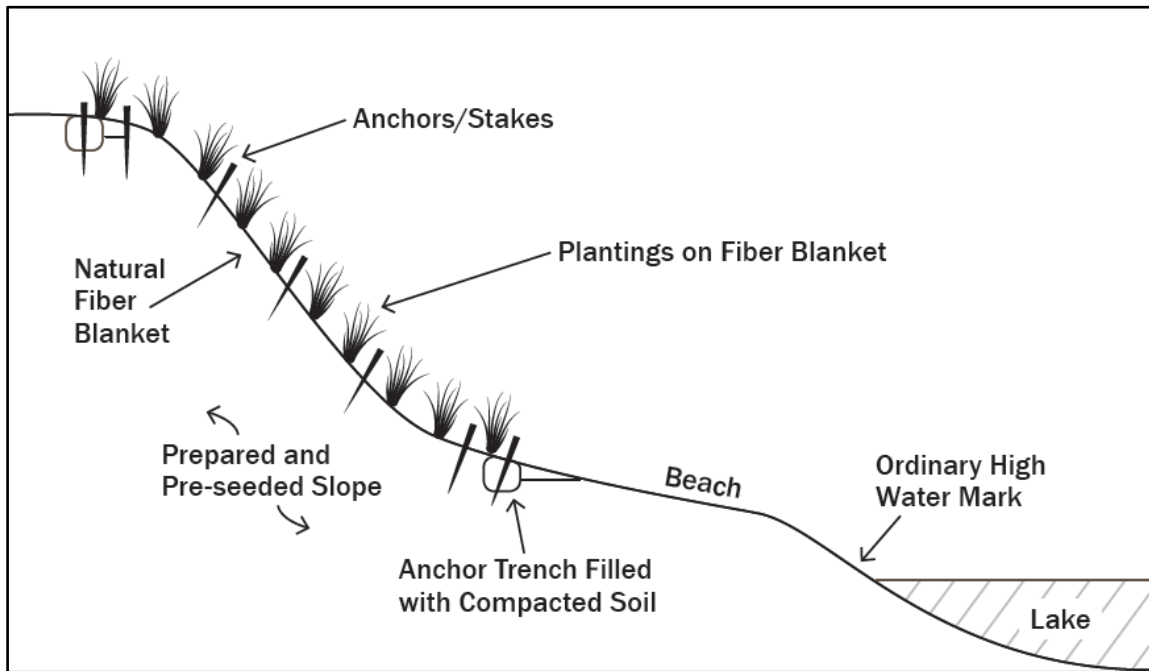

Figure 1. Natural Fiber Blanket Installation Using Anchor Trenches and Planted with Native Grasses. (Adapted from Massachusetts, 2016.)
- Bioengineering with Fiber Blankets - Installation of fiber blankets on shoreline banks, bluffs, and other steep slopes helps stabilize loose soils (sand) in place while planted vegetation takes root, as depicted in Figure 1. The planted vegetation then actively holds the bluff or slope in place as it develops root structure while the fiber blanket biodegrades. Some design considerations include: